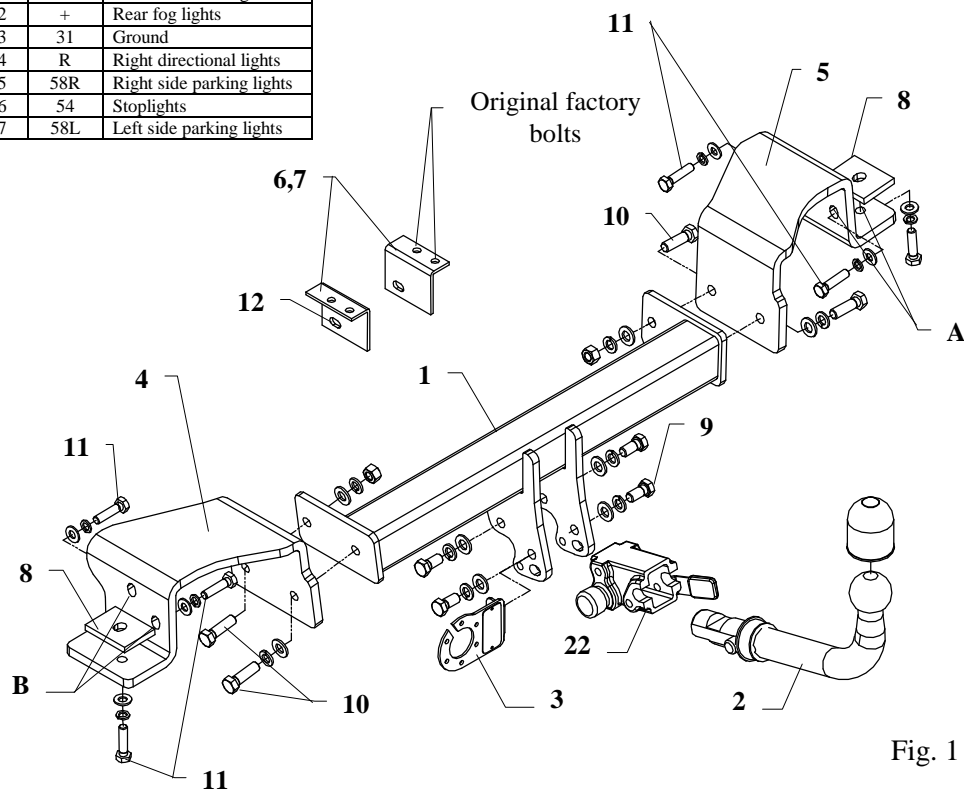

Fig. 1
5. Elements (pos. 4 and 5) put to chassis members (holes pos. A and B must agree with original points of towbar mounting) and fix it using bolts M10x1,25x40mm – poz. 11 (loosely), put washers (pos. 15) under bolts – see fig. 1.
6. Between elements (pos. 4 and 5) slip main bar of the towbar (pos. 1) and screw it using bolts M12x40mm (pos. 10).
7. Fix body of the automat (pos. 22) and the socket plate (pos. 3) using bolts M12x25mm (pos. 9) from accessories. Place tow-ball (pos. 2) according to supplied instruction.